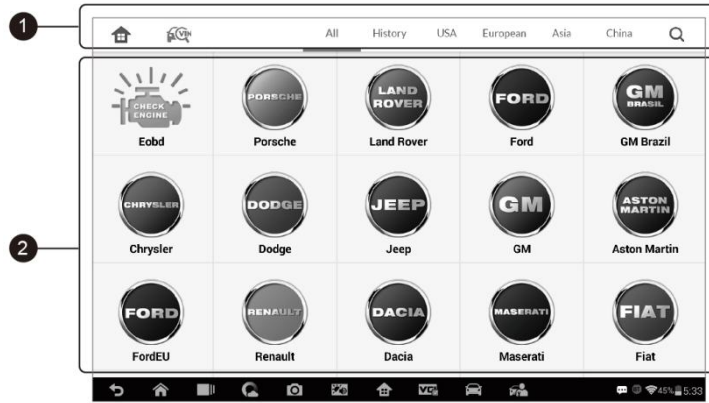

Figure 4-2 Sample Vehicle Menu Screen
1. Tap the **Diagnostics** application button from the MaxiCOM Job Menu. The Vehicle Menu displays (*Figure 4-2*).